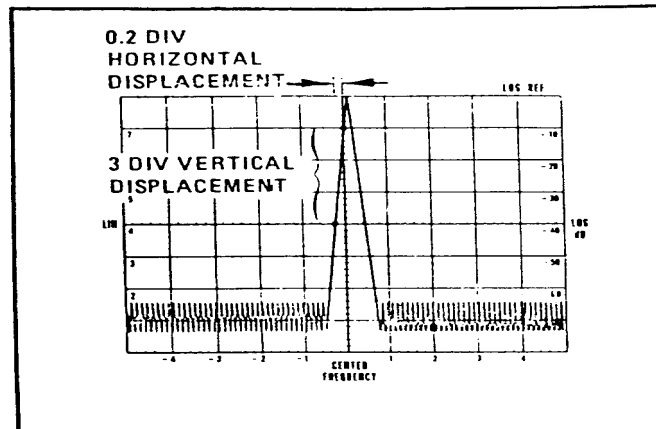

Figure 14. Local oscillator stability
- (2) Position TI controls as listed in (a) through (e) below:
- (3) Set IF plug-in **SCAN TIME PER DIVISION** switch to 2 ms and **LOG/LINEAR** switch to **LINEAR**.
- (4) Adjust signal generator output for 100 MHz CW at -30 dBm.
- (5) Adjust **LINEAR SENSITIVITY** control and **LINEAR SENSITIVITY (LOG REF LEVEL** vernier) vernier control as necessary to obtain a full 8-division display.
- (6) Adjust **FREQUENCY** and **FREQUENCY FINE TUNE** controls as necessary to center display.
- (7) Readjust **FREQUENCY** controls until upward slope of signal pip intersects **CENTER** graticule line one division from top graticule line as shown in figure 14. Note where slope of display intersects center horizontal graticule line and record horizontal displacement (fig. 14).
(10) Set **SCAN WIDTH** (red) switch to **ZERO** and adjust **FREQUENCY FINE TUNE** control to position signal display line so that it appears in the three-division range mentioned in (7), (8), and (9) above (fig. 14).
(11) Measure p-p vertical displacement and multiply by demodulation sensitivity obtained in (9) above. Calculated value will be 10 kHz p-p or less.